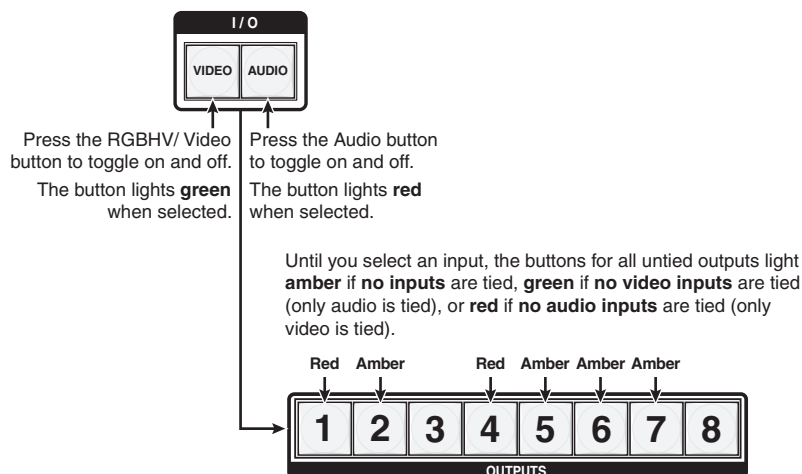

Figure 3-49 — Select RGBHV and audio
- To select both video and audio for viewing and muting, if necessary, press and release the RGBHV button and the Audio button (figure 3-49).